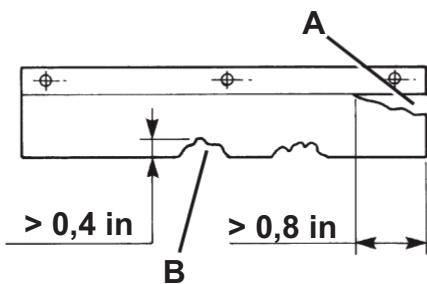

Figure 11
1. Check the side skirts (16 and 17) for integrity. Replace the skirts when they have cuts (A, Fig. 11) larger than 0.8 in (20 mm) or cracks (B) larger than 0.4 in (10 mm) (for skirt replacement, refer to the Service Manual).